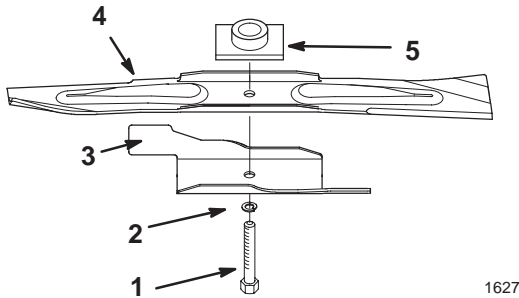

Figure 15
2. Remove the blade bolt, the lock washer, the accelerator, and the blade (Fig. 15).
1. Install a sharp, balanced Toro blade, an accelerator, a lock washer, and the blade bolt (Fig. 15).